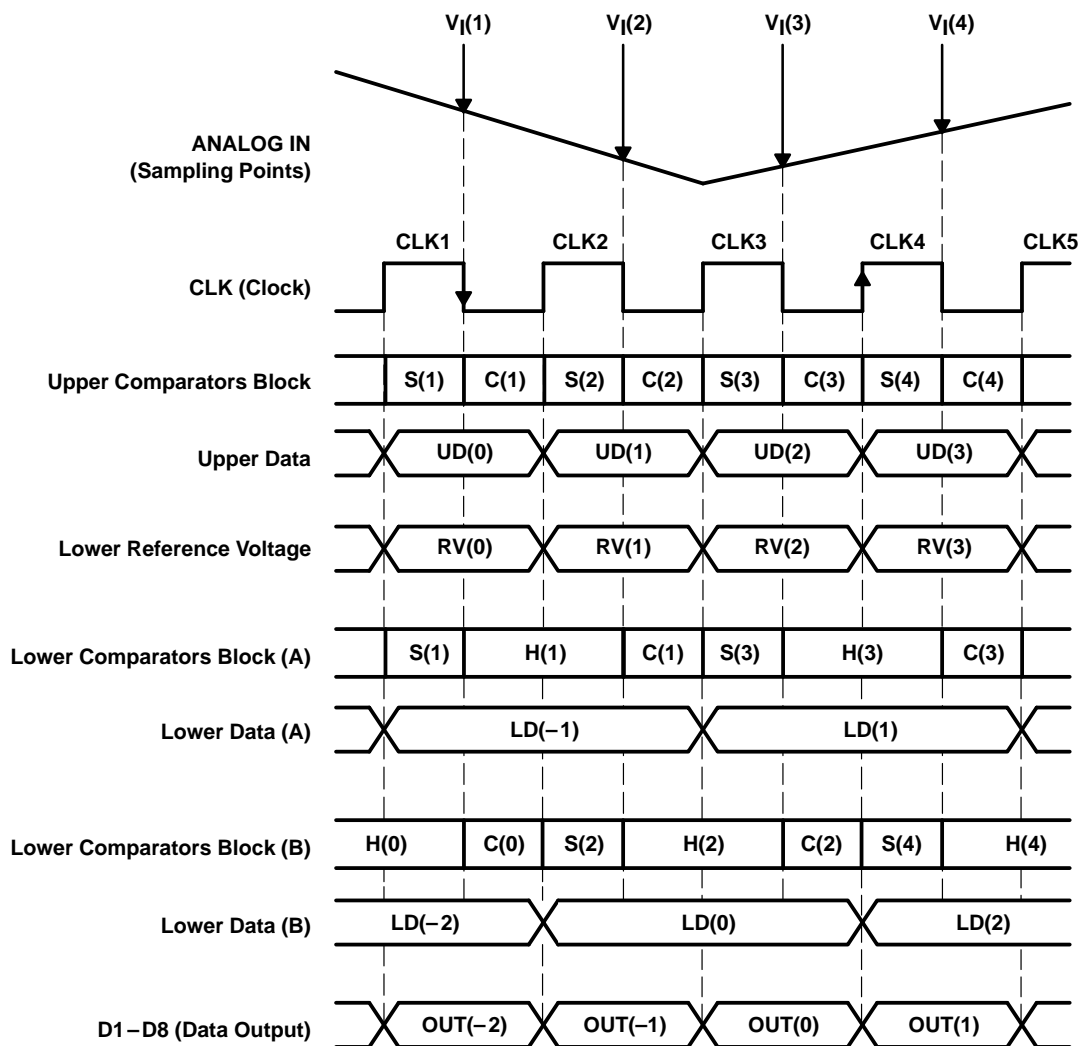

Figure 3. Internal Functional Timing Diagram
As shown in Figure 3, input voltage  $V_I(1)$  is sampled with the falling edge of CLK1 to the upper comparators block and the lower comparators block(A), S(1). The upper comparators block finalizes the upper data UD(1) with the rising edge of CLK2, and simultaneously, the lower reference voltage generates the voltage RV(1) corresponding to the upper data. The lower comparators block (A) finalizes the lower data LD(1) with the rising edge of CLK3. UD(1) and LD(1) are combined and output as OUT(1) with the rising edge of CLK4. According to the above internal operation described, output data is delayed 2.5 clocks from the analog input voltage sampling point.